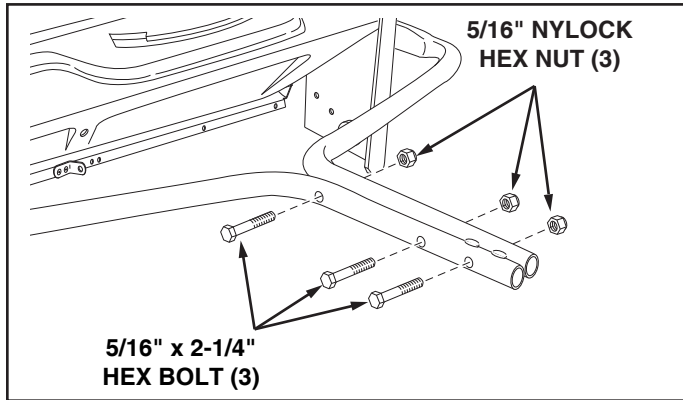

FIGURE 4
- Fasten the hitch tubes together using three 5/16" x 2-1/4" hex bolts and 5/16" nylock hex nuts. **Do not tighten yet.** See figure 4.
- Tighten** the hex bolts assembled in figure 4 and 5.